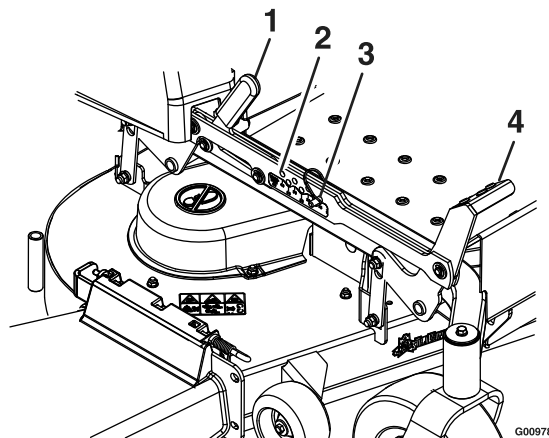

Figure 11
1. Raise the deck to the transport position (4.5 inch (114 mm) cut height) by pushing the foot actuated lever forward (Figure 11). The transport lever will automatically engage and will drop into place.